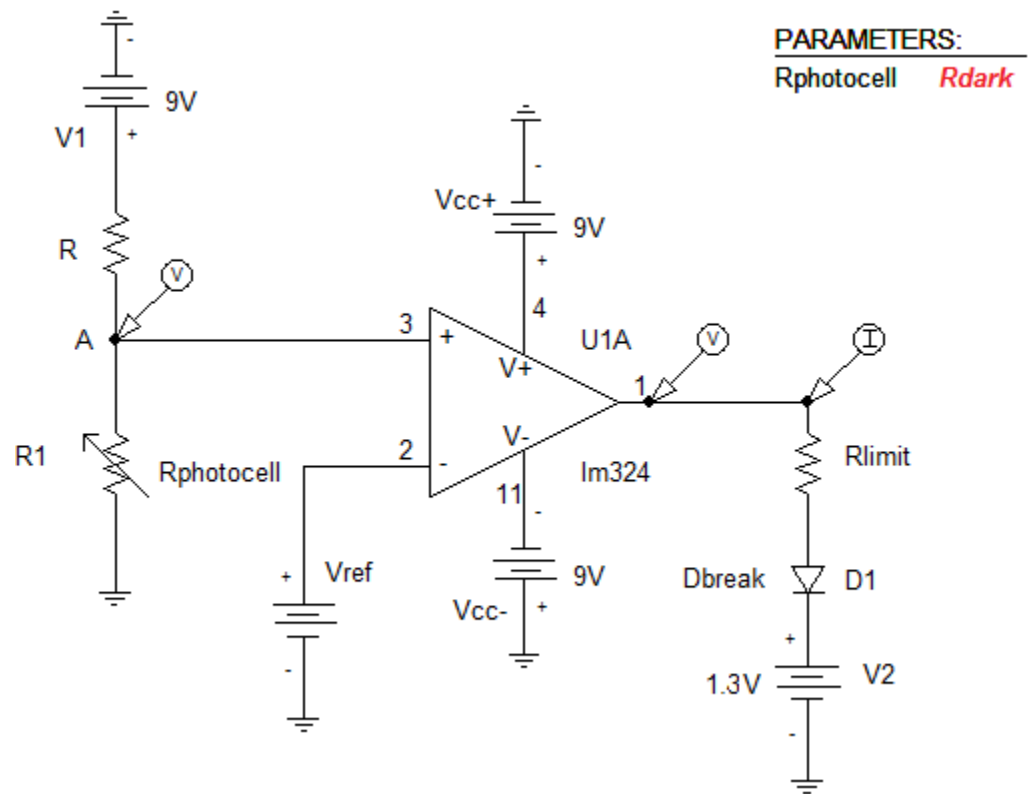

Figure 4: Schematic of night light circuit implemented in PSpice.
reaches a specified value, the output of the voltage comparator will change and approximately 10 mA will flow through a green LED, causing it to emit light. An example of the night light circuit as implemented in PSpice is shown in Figure 4.
12. Construct the circuit shown in Figure 4 where D1 (Dbreak) and V2 are replaced with a green LED. Be sure to connect the polarities of the  $\pm 9$  V power supplies correctly and that the cathode of the green LED is connected to ground.